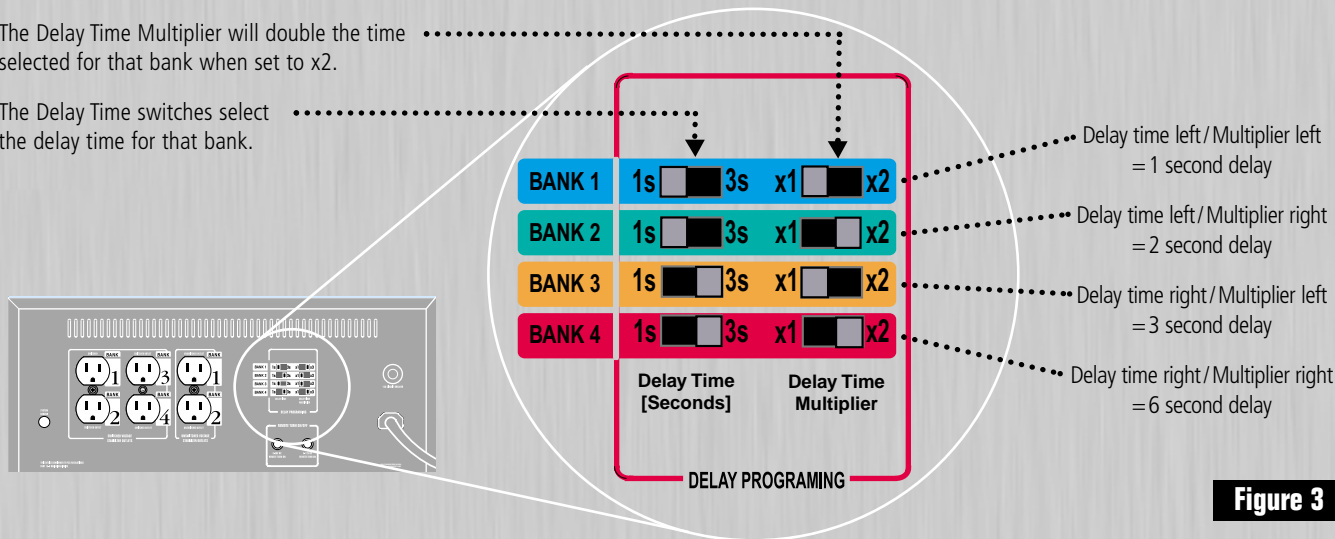

Figure 3
1. **Unswitched Outlets:** Provide power to components or Monster PowerCenters regardless of the status of the Sequential Power On/Off button (10).
2. **Switched Outlets:** Provide power to connected components only when the Sequential Power On/Off button (10) is initiated.
3. **Delay Programming:** Sets the powerup delay time for the switched outlets (see Fig.3, below left).
The four switched outlets located on the back of the AVS 2000 can be individually programmed to delay power-up between 1 to 6 seconds. This means in order to program each outlet, you must use the slide switches seen in Figure 3.